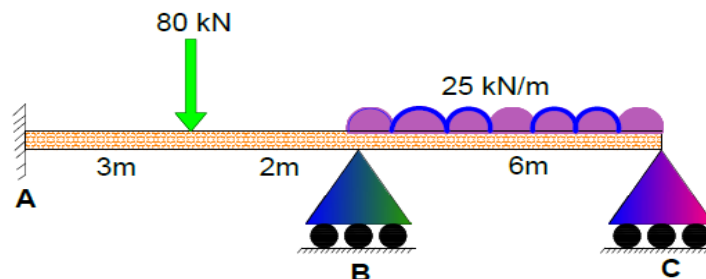

Fig 6
- (b) Analyze the two span continuous beam loaded as shown in fig 6 CO4-Ana (16) using matrix flexibility method. Assume EI value.